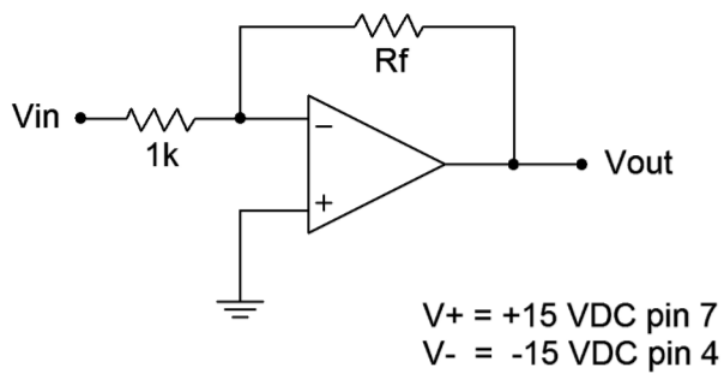

Figure 5.5.1
1. The voltage gain of the inverting amplifier can be determined accurately from the feedback resistors R_i and R_f . Calculate the voltage gains for the amplifier of Figure 5.5.1 for the R_f values specified, and record them in Table 5.7.1.
2. Assemble the circuit of Figure 5.5.1 using the 4k7 Ω resistor.